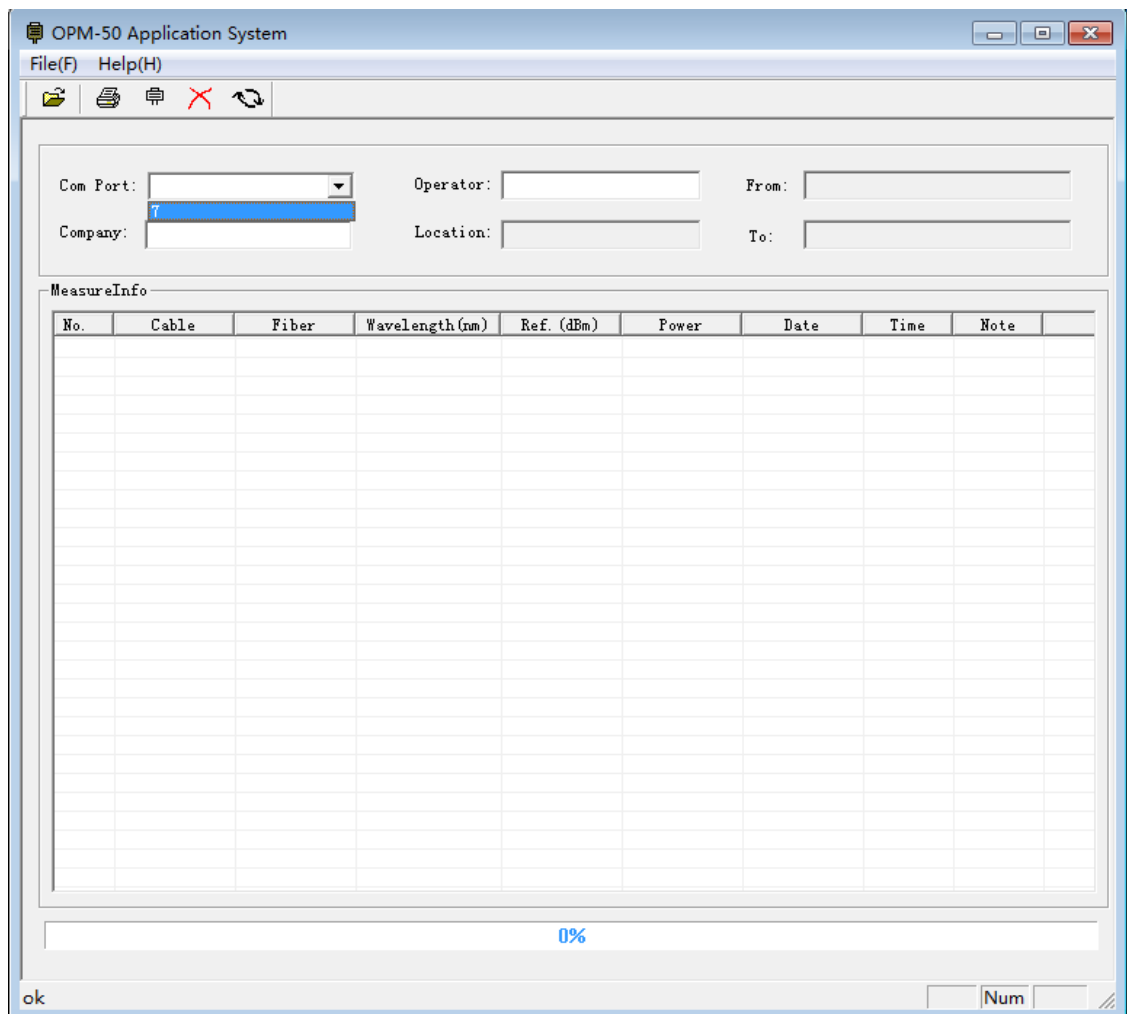

Figure 4.1.1
- 3 Select series port: Click “Com Port”, Will list the serial correlation in the drop-down menu, select the serial port, shows as Figure 4.1.1;